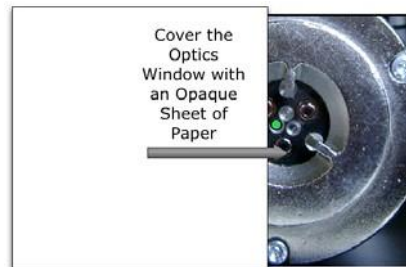

**Fig 7-1: Placement of Magnetic Collar and Testing with Test Lamp**
2. If it is necessary to isolate the detector fire relay from the alarm system, apply the magnetic collar over the enclosure as shown in Figure 7-1. Placing the collar over the enclosure as shown allows the fire relay contacts to remain in the non-alarm state during testing.